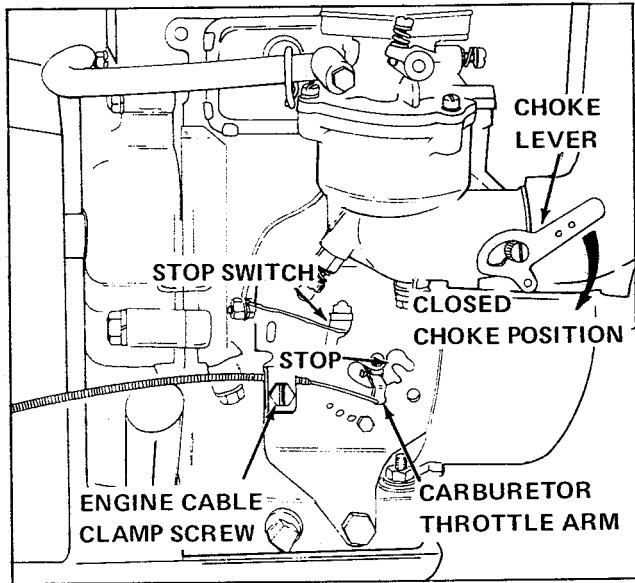
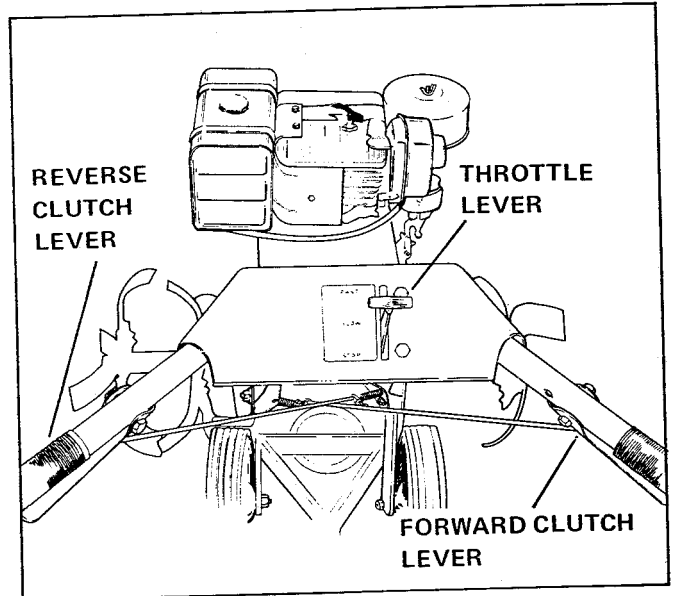
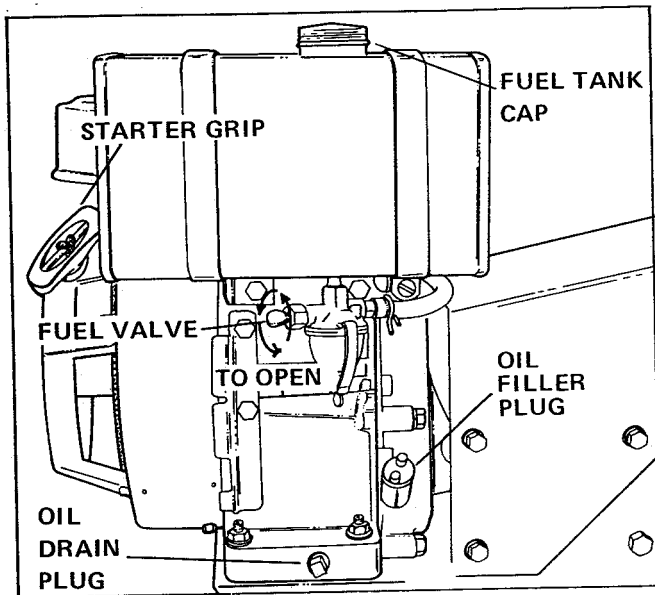

Figure 4.
Figure 8.
Figure 9.
- a. See Figure 8. Move throttle control handle to FAST position. Be sure throttle cable wire is securely attached to throttle arm under control panel. From the throttle
arm, the throttle cable must be secured to the right handle with a clip. The cable must then pass outside the right side of the cover and through a engine cable clamp. Loosen engine cable clamp screw as required. See Figure 4.
b. See Figure 4. Insert loose wire end of throttle cable in carburetor throttle arm. Lever should be in forward position against stop in slot. Tighten engine cable clamp screw.
c. See Figure 8. Move throttle control handle to STOP position. Be sure stop switch opens. See Figure 4.
See Figure 8. Familiarize yourself with the following controls:
- THROTTLE LEVER.** Used to adjust ground speed or to stop engine. See Figure 8 for throttle lever positioning.
- FUEL.** See Figure 9. Have available sufficient quantities of clean, fresh (leaded or non-leaded), "regular" automotive gasoline. Remove fuel tank cap and fill tank completely. Fuel capacity is 4 quarts.
- OIL.** See Figure 9. Have available sufficient quantities of engine crankcase oil, SAE 30 grade MS. Remove dirt around engine filler plug. Remove engine filler plug by turning counter-clockwise. Fill with oil until level with top of neck. Crankcase capacity is 2-3/4 pints. Reinstall filler plug securely. Check oil everytime fuel is added.
- a. See Figure 8. Move throttle lever halfway between SLOW and FAST position.
- b. See Figure 4. Move choke lever to full CHOKE position. If engine warm, use half choke. Choke arm should be at right angles to exhaust tubing when in CLOSED CHOKE position and parallel to tubing when in OPEN CHOKE position.
- c. See Figure 9. Be sure fuel valve is open.
- d. To start engine, grasp starter grip (See Figure 9) firmly in right hand and pull sharply straight out. Always return grip by hand. Do not release the grip with rope extended. Repeat if necessary with choke open slightly (See Figure 4.) When engine starts, open choke gradually.
f. If engine still fails to start, check fuel supply and spark plug connections. Be sure engine stop switch is closed (See Figure 4).
- a. Move the throttle lever (See Figure 8) to the STOP position. The stop switch (See Figure 4) should open, stopping the engine.
See Figure 9. Change engine oil as follows: